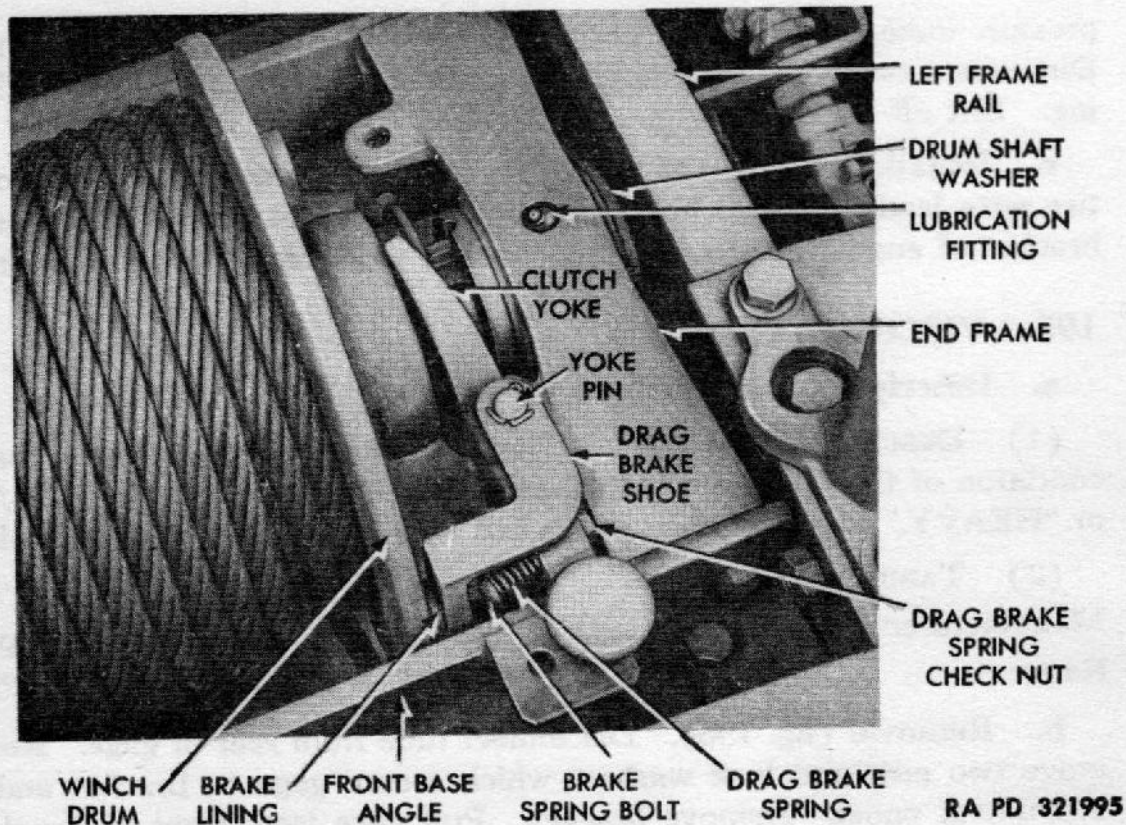

Figure 139 - Winch Jaw Clutch and Drag Brake
a. **Brake Shoe Adjustment** (fig. 139). If brake does not give sufficient drag, loosen check nut, then tighten adjusting nut enough to prevent drum from spinning. Secure with check nut.
(1) **REMOVE YOKE PIN** (fig. 139). Pull out cotter pin, and tap out yoke pin through clutch yoke and drag brake shoe.
(4) **DETACH END FRAME** (fig. 139). Remove cap screws and lock washers which secure end frame to rear and front base angles. Pry end frame toward left frame rail until drag brake shoe can be lifted from its seat on clutch yoke.
(5) **REMOVE DRAG BRAKE** (fig. 139). Lift out drag brake.
(1) **INSTALL BRAKE SHOE ON CLUTCH YOKE** (fig. 139). Position brake shoe on clutch yoke. Install yoke pin, and secure with cotter pin.
(2) **MOVE END FRAME** (fig. 139). Pry end frame into position toward winch drum. Attach end frame to front and rear base angles with lock washers and cap screws.
(3) **TIGHTEN DRUM SHAFT CAP SCREW** (fig. 139). Tighten cap screw at end of drum shaft to secure drum shaft washer to shaft.
(4) **INSTALL LUBRICATION FITTING** (fig. 139). Install lubrication fitting in top of end frame sleeve.